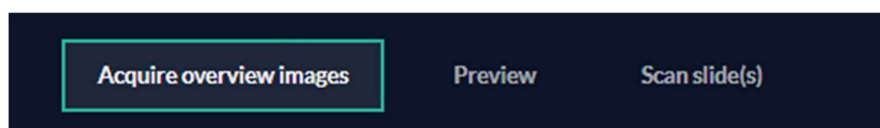

Figure 6-3 Acquire overview images.
5. If needed, click **Acquire overview images** (Figure 6-3) to image the slides that are in SCIZYS S1 without taking out the slide holder.